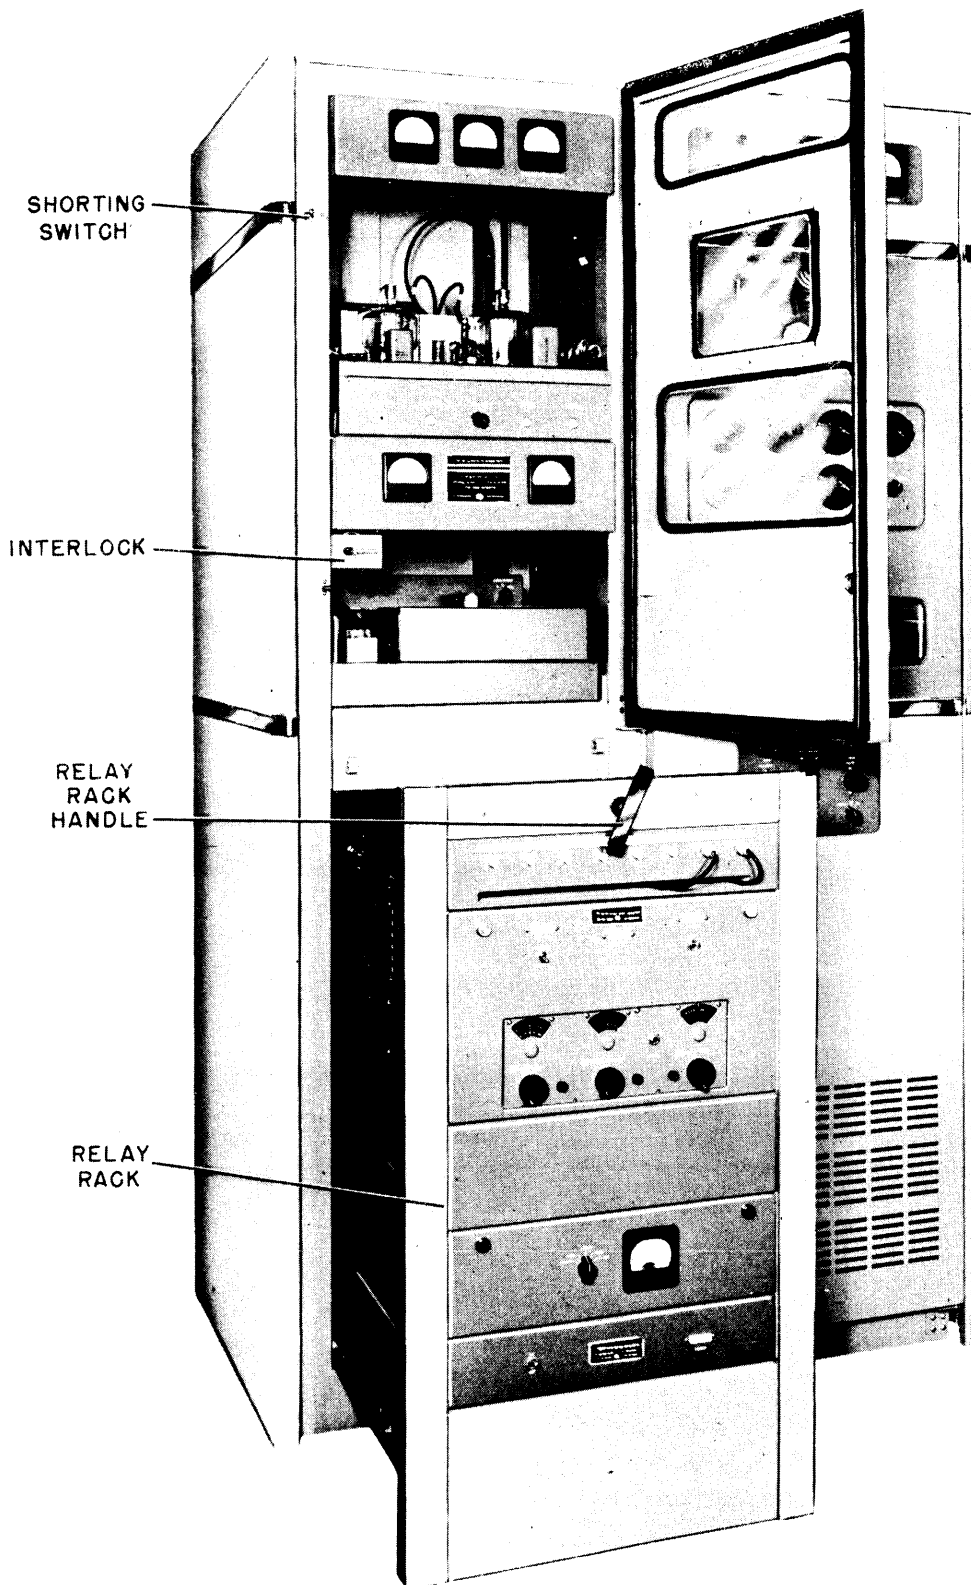

Figure 3-7. Radio Transmitter T-440/FRT-24, Left-Hand Cabinet Exposed
(3) GROUND CONNECTIONS.—The transmitter enclosure should be connected to a good ground system which should consist of, at least, all the metal parts of the building in the vicinity of the transmitter. These metal areas should be well-bonded together and connected to the base of the transmitter at as many places as is practicable, using wide copper strap bonded to the station ground system or other suitable ground. Flexible copper braid shall not be used as a ground conductor under any circumstances.
c. INSTALLATION OF UNITS AND ASSEMBLIES REMOVED PRIOR TO SHIPMENT.—The following paragraphs describe the installation procedure of units and assemblies removed prior to shipment. See figures 3-7, 3-9, and 3-14.
(1) R-F ASSEMBLY.—To mount the R-F Assembly proceed as follows: